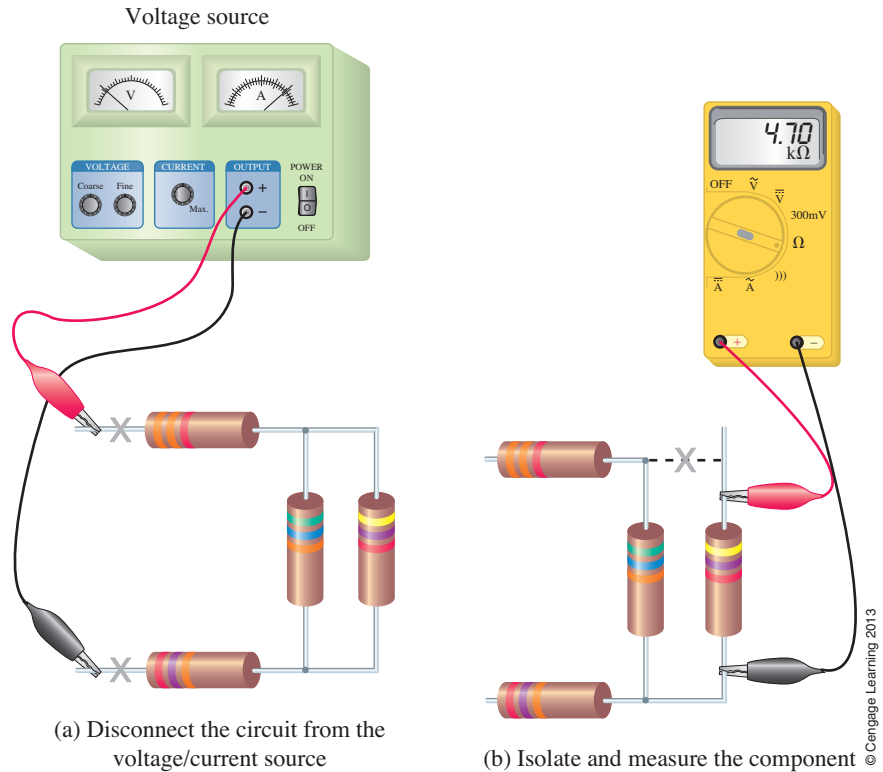

FIGURE 3-20 Using an ohmmeter to measure resistance in a circuit.
- As shown in Figure 3-20(b), connect the two probes of the ohmmeter across the component to be measured. The black and red leads of the ohmmeter may be interchanged when measuring resistors. When measuring resistance of other components, however, the measured resistance will be dependent upon the direction of the sensing current. Such devices are covered briefly in a later section of this chapter.